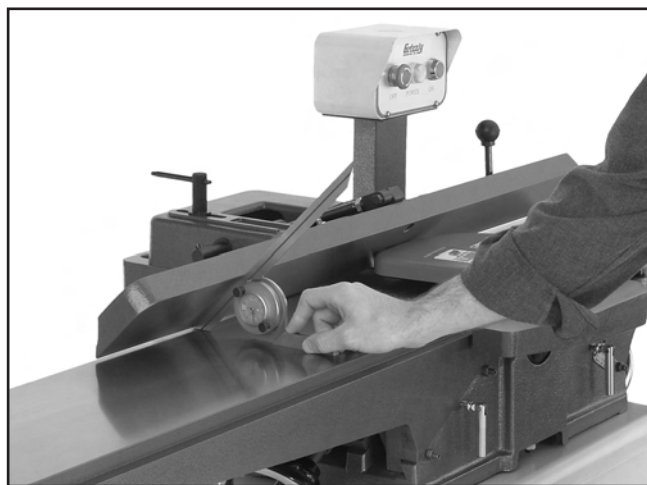

Figure 58. Example of adjusting fence 45° inward.
1. Using a 45° square, adjust the fence to the 45° inward position, as shown in **Figure 58**.